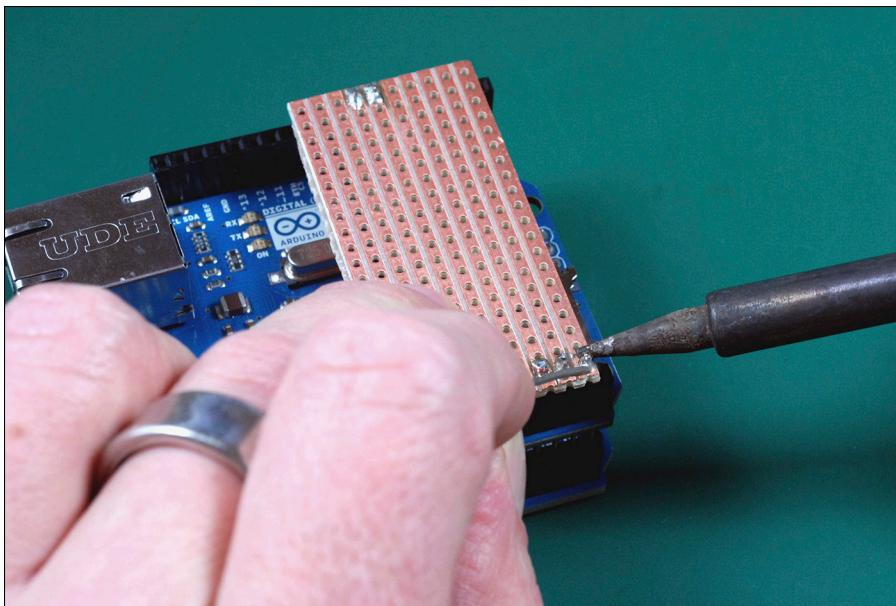

Figure 12-12:
4. Carefully solder the pins to the copper strips, as shown in Figure 12-12, making sure that you don't create a solder bridge between any of the strips of copper.